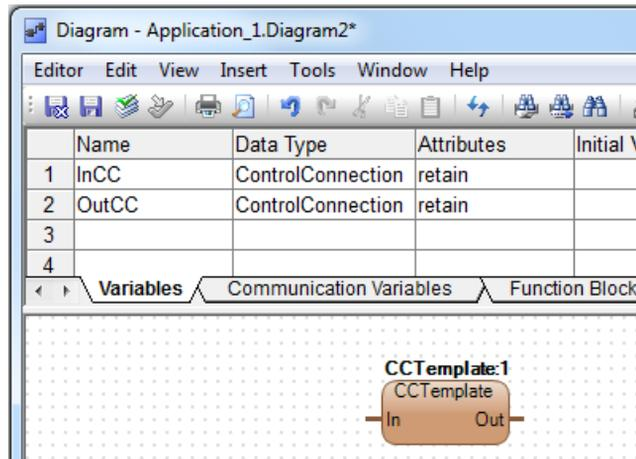

Figure 76. CCTemplate inserted in the graphical code block
- c. Click **Insert**. The CCTemplate control module is inserted as shown in Figure 76.